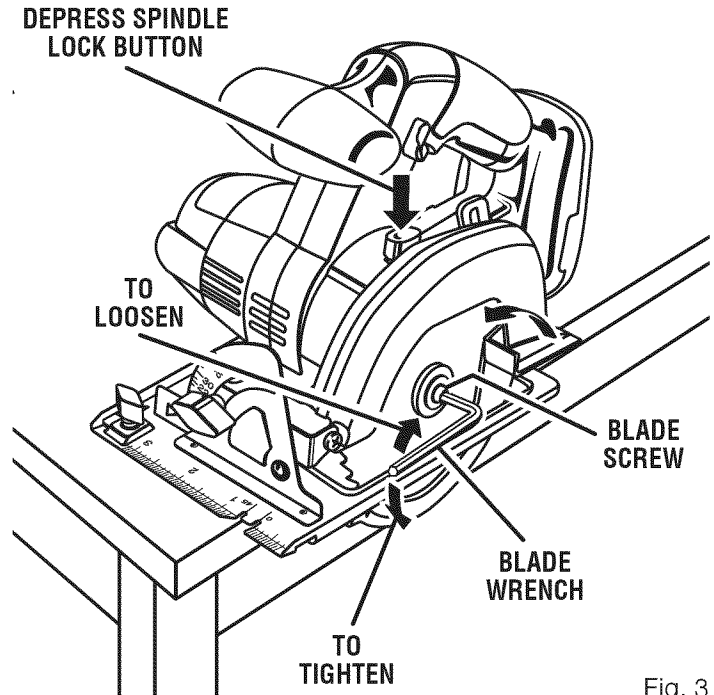

Fig. 3
See Figure 3.
- Position saw as shown in figure 3, depress spindle lock button, and remove blade screw.